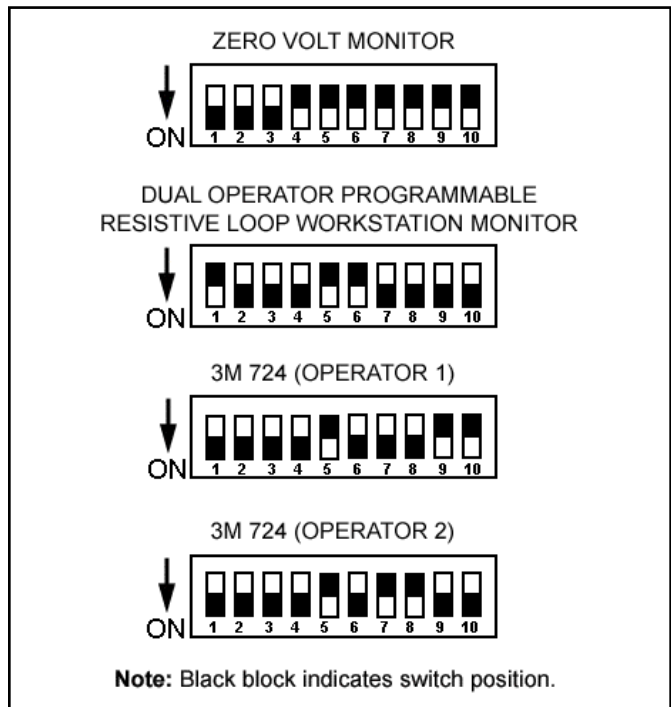

Figure 3. DIP switch settings
**D. DIP Switches:** Settings may be modified to allow compatibility for different monitors (see Figure 3).
Remove the Universal Remote from its packaging and inspect for any shipping damage. Modify the remote's DIP switch settings to match with its corresponding monitor (See Figure 3). The improved 4mm snaps give the operator the option of using the Jewel® Dual-Wire Coil Cord or Jewel® MagSnap Dual-Wire Coil Cord. Decide on a convenient location to mount the remote; it is typically mounted under the workbench top to save workspace.
III. Route the other end of the cable to the Universal Remote and insert the plug into the modular jack located on the side of the remote. Note: If connected to the 732 jack, ensure that the remote's DIP switch settings match those of "3M 724 (OPERATOR 1)" in Figure 3. If connected to the 733 jack, ensure that the remote's DIP switch settings match those of "3M 724 (OPERATOR 2)" in Figure 3.